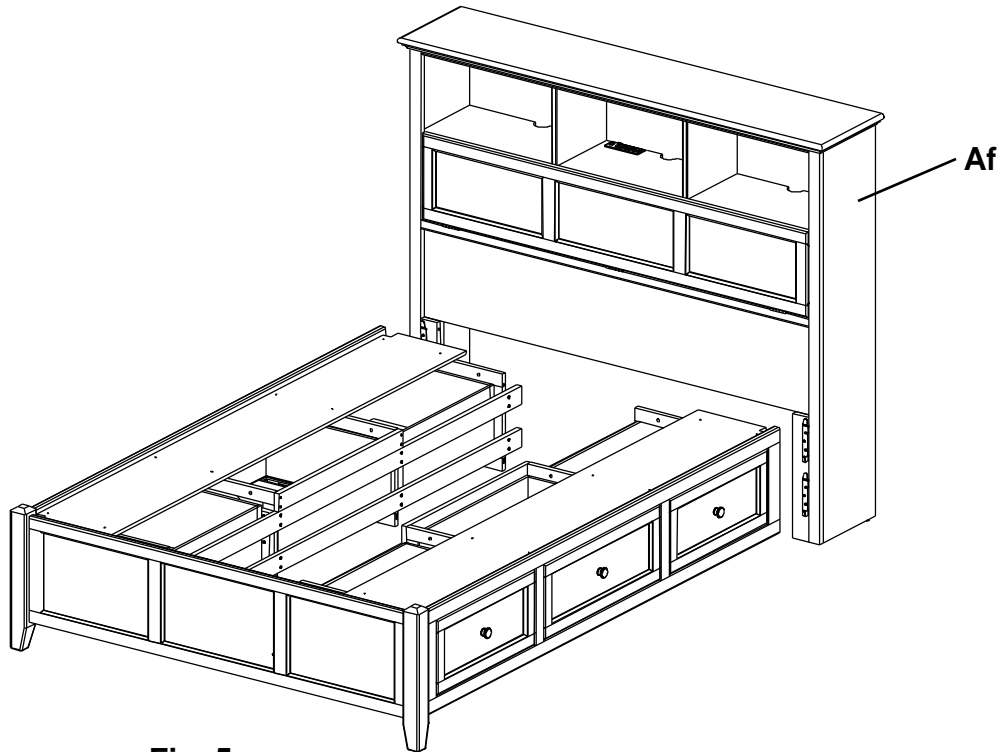

Fig. 5
5. Align the Brackets on both sides and slide the Pedestal/Footboard assembly down on to the Headboard (Af). See Figure 5.